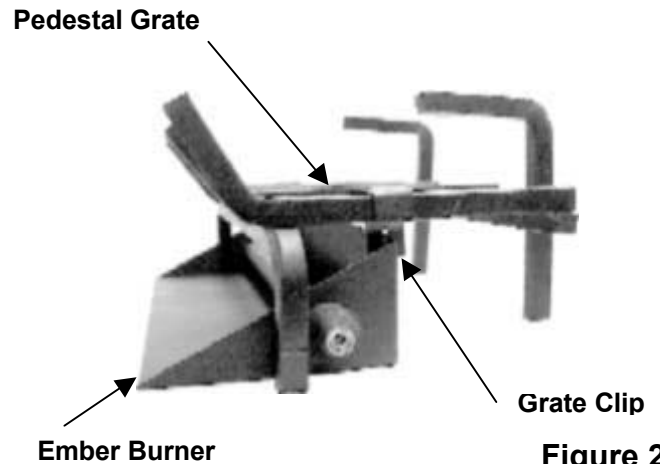

Figure 2
4. Place the **Pedestal Grate** over the ember burner so that the slits in the **Grate Clips** fit over the back wall of the ember burner pan. Once the final positioning is established, mark the burner and grate position on the floor of the fireplace for reference points. Remove the grate and proceed with the gas connection. (See **Figure 2**)